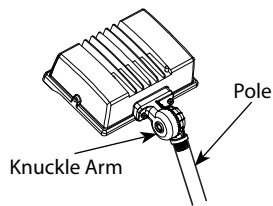

Fig: 2
3. The **Knuckle Arm** allows 180° of vertical aiming adjustment depending on the mounting position as shown in **Fig. 2**.